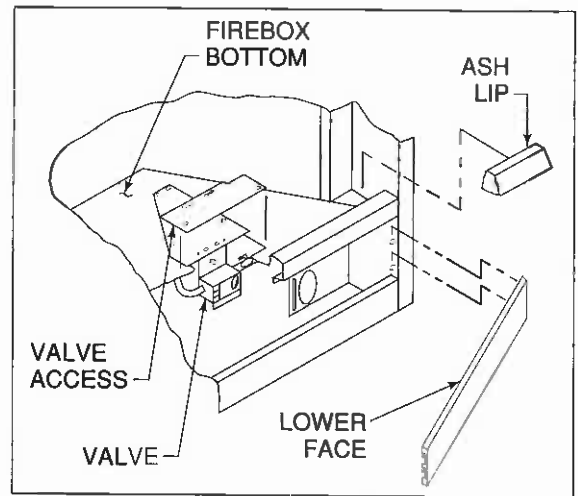
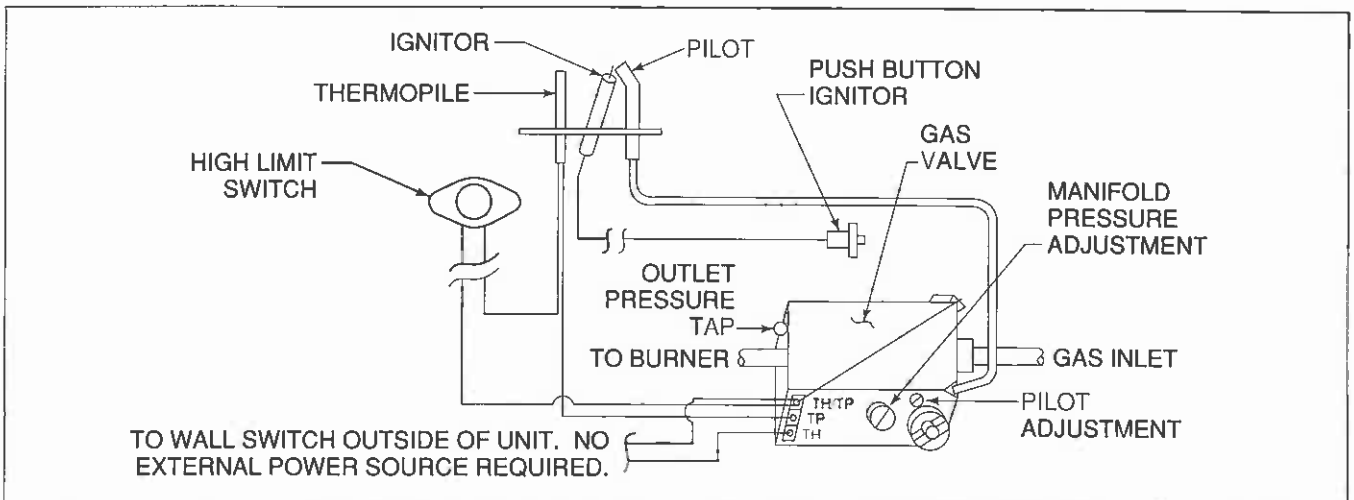

Figure 4
Figure 5
Connect the wires from outside of unit to the supplied wall switch as shown in Figure 5. The wall switch should be installed in a convenient location. **NOTE: The maximum wire length is 40 ft.** Run the 3/8" pipe approximately 3" into the unit. Connect the gas line to the appliance, using 3/8" 45° flare fitting. Check for gas leaks with a soap and water solution. See Figure 4 for location of gas valve.
1. Remove the pilot adjustment cap from the valve. See Figure 5.